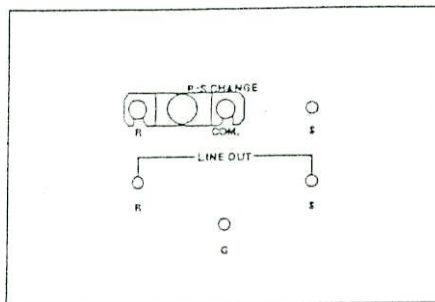

Fig. 14
3. Set the Surge injection phase selector ⑯ as Fig. 14.